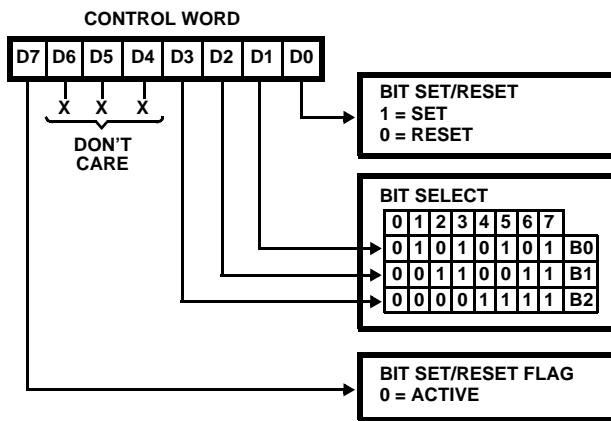

FIGURE 5. BIT SET/RESET FORMAT
**Single Bit Set/Reset Feature (Figure 5)**